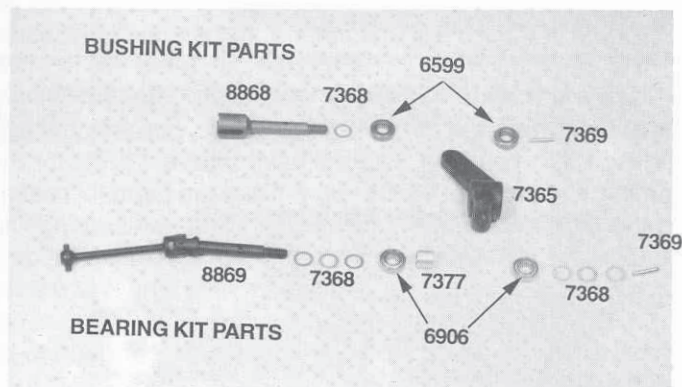

Fig. 84
□ **Figs. 84 & 85** We will now need to start assembling the rear axles and hub carriers. Depending upon which model of the RC10DS you own, you will have different parts for this assembly. If you look at fig. 84 you will see the parts for assembling the rear axle for both the bushing and ball bearing kits. **Note:** The photos after this step will only show the installation of the dogbones and stub axles in order to save time and space.
3) Fig. 84 shows the parts laid out in the order they will be assembled. The hub carrier will be the same for both but the